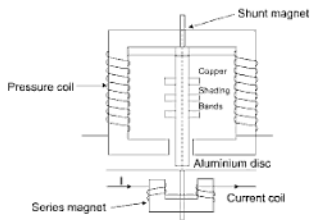

Fig. 4.14
- (i) These instruments have two laminated electromagnets as shown in Fig. 4.14, one is excited by the load current and the other by a current proportional to the voltage of the circuit in which the power is to be measured.